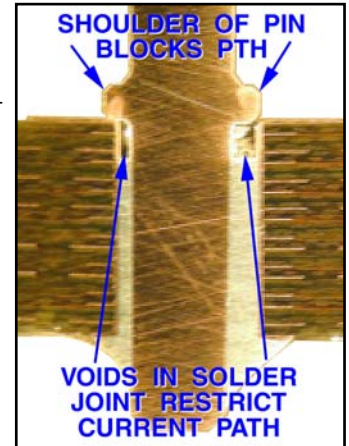

Fig. 7: The need for vented shoulders
- When wave or reflow soldering power converters, vented shoulders on the pins allow the solder to completely fill the plated-thru-hole and eliminate voids and flux entrapment that would reduce the current path. See Fig. 7.